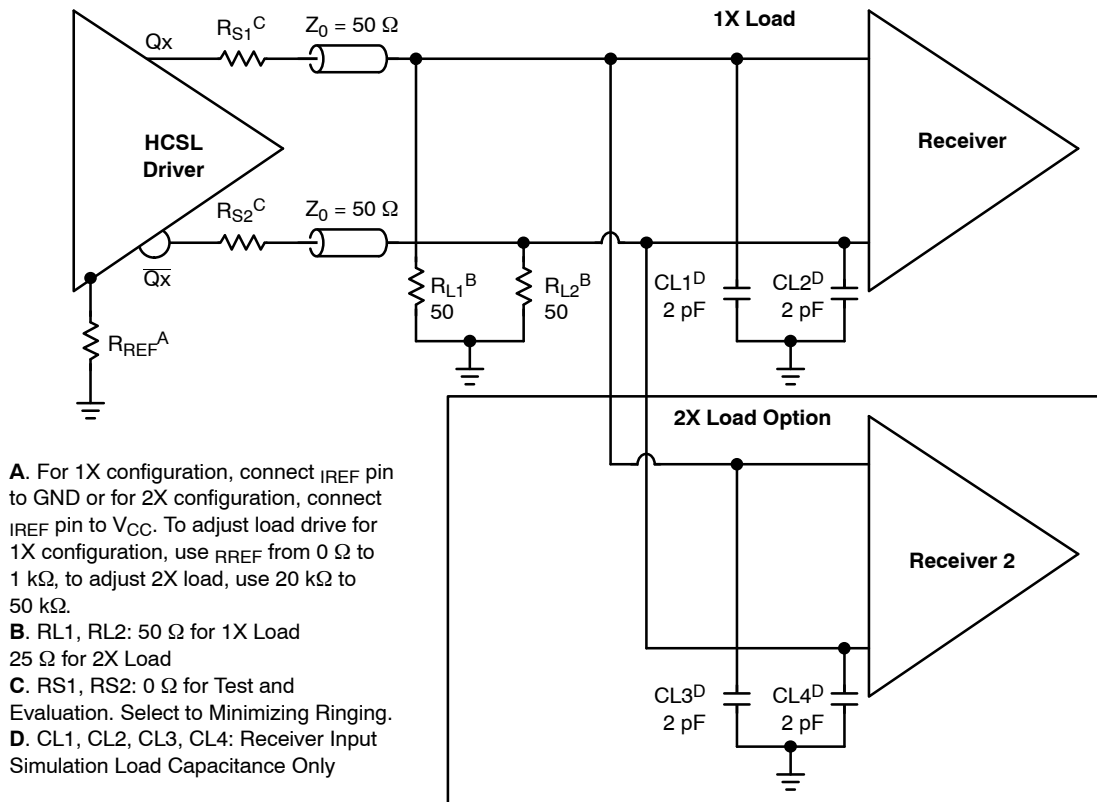

Figure 9. Typical Termination Configuration for Output Driver and Device Evaluation
- Input parameters vary 1:1 with V_{CC} . Measurements taken with outputs in either 1X (all outputs loaded $50\ \Omega$ to GND) or 2X (all outputs loaded $25\ \Omega$ to GND) configuration, see Figure 9. For 1X configuration, connect I_{REF} to GND, or for 2X configuration, connect I_{REF} to V_{CC} .
7. Measured by forcing V_{INPP} (MIN) from a 50% duty cycle clock source. Measurements taken with outputs in either 1X (all outputs loaded $50\ \Omega$ to GND) or 2X (all outputs loaded $25\ \Omega$ to GND) configuration, see Figure 9. For 1X configuration, connect I_{REF} to GND, or for 2X configuration, connect I_{REF} to V_{CC} . Typical gain is 20 dB.